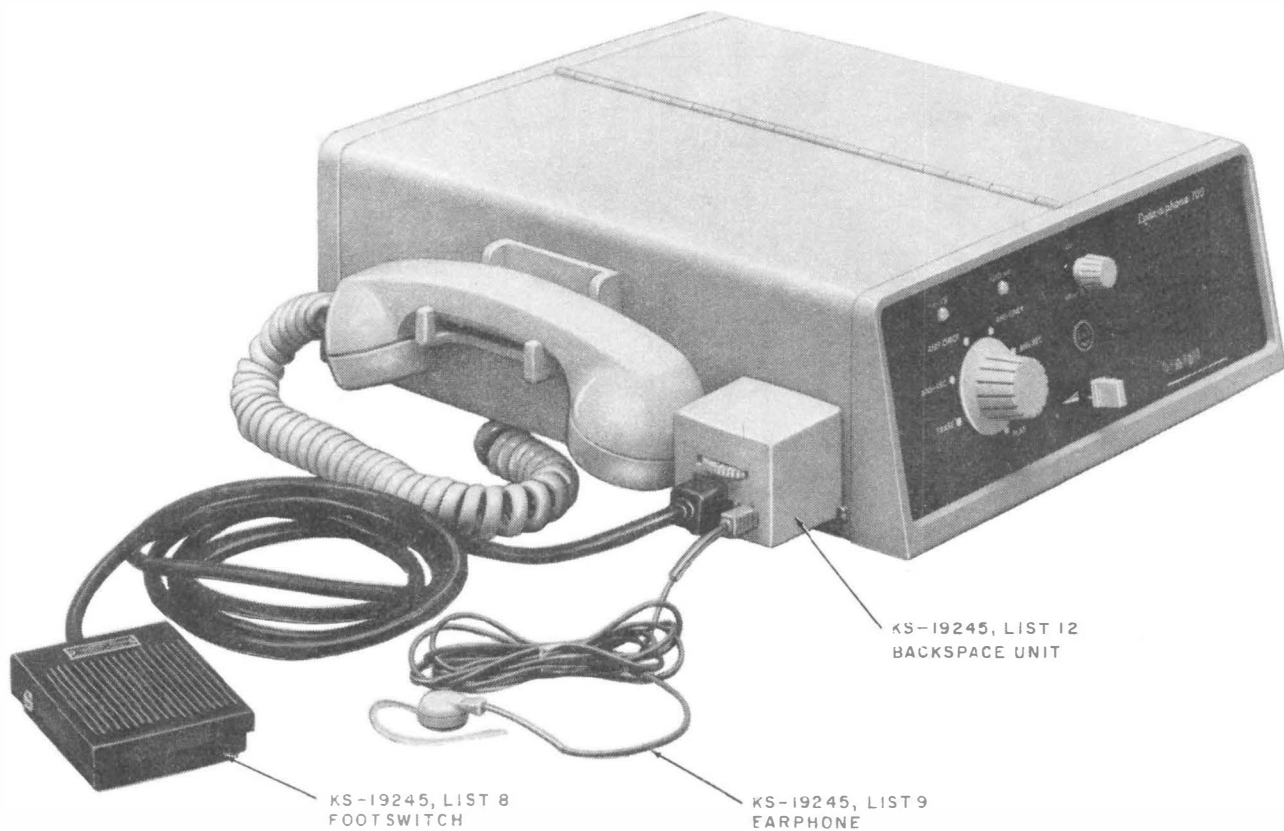

Fig. 27—KS-19245 Type Telephone Answering Set—With Accessories
- (4) Insert footswitch plug into footswitch receptacle on backspace unit (Fig. 27).
- (5) Insert earphone into earphone jack on backspace unit (Fig. 27).
- (6) Adjust backspace control on backspace unit for automatic backspace of desired interval.